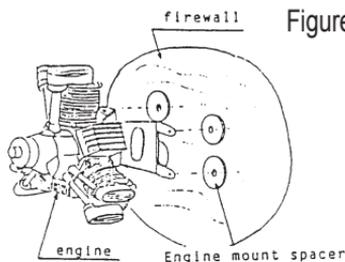

Figure 6
**NOTE:** Always utilize the engine's mounting spacers. Place the mounting spacer between the integral motor mount and the firewall of the aircraft. The spacers will minimize firewall depression and serve to reinforce the mount. Soft mounting of Saito engines is not required due to low vibration levels found in the Saito multi-cylinder engines. (See Figure 6 Above)